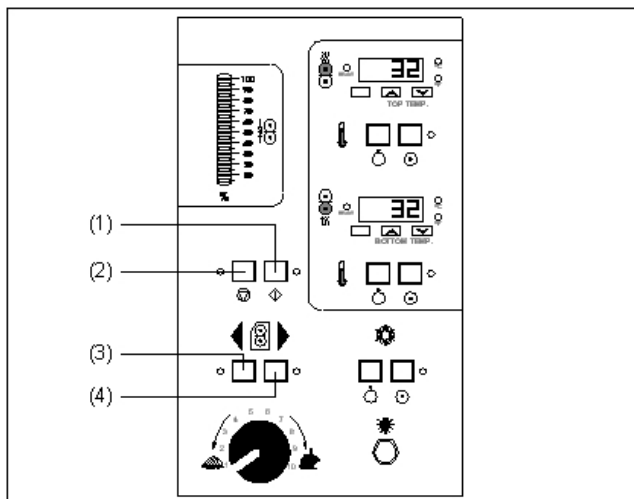

Fig 7
C. CONTROL PANEL BUTTONS: (Figure 7)